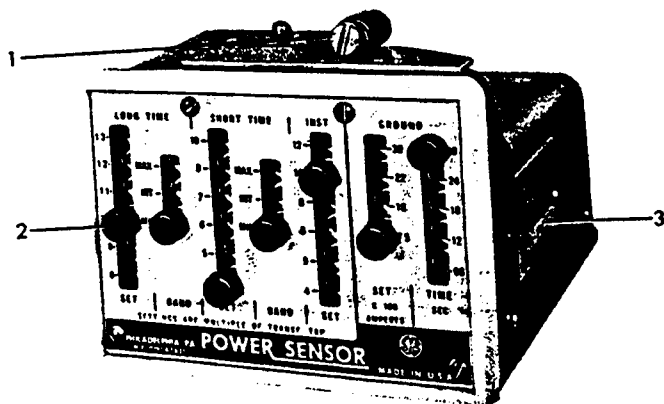

Figure 16. (8041864) Power Sensor Unit
3. The Power Sensor Unit with the various pick-up settings and time delay selection taps (Figure 16).
POWER SENSOR UNIT (Figure 16).